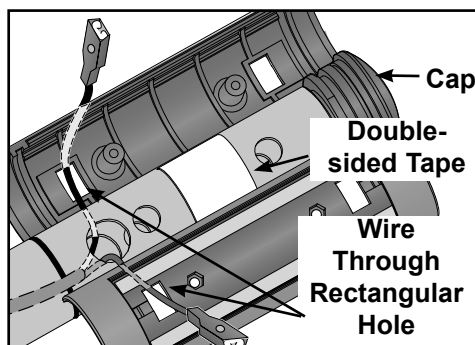

Figure 36
- C. Place each plastic grip near the handrail and pull each wire through a rectangular hole. See Figure 36. **NOTE:** Don't let the wires slip back into their holes.
- D. Fit the three plastic parts in position (the housing (2) and the cap (1)) and continue holding all plastic parts through the next step. See Figure 36.